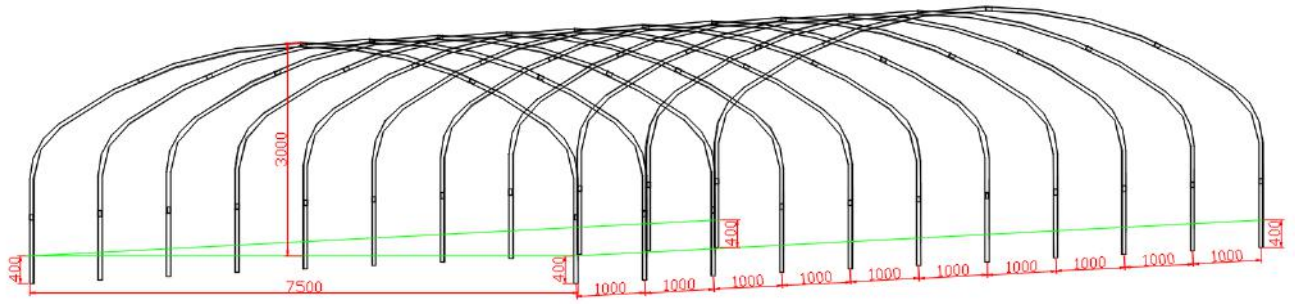

Figure 4
- Ensure the spacing is uniform, with one leg positioned every meter, and fill the pre-drilled holes, shown as Figure 4.